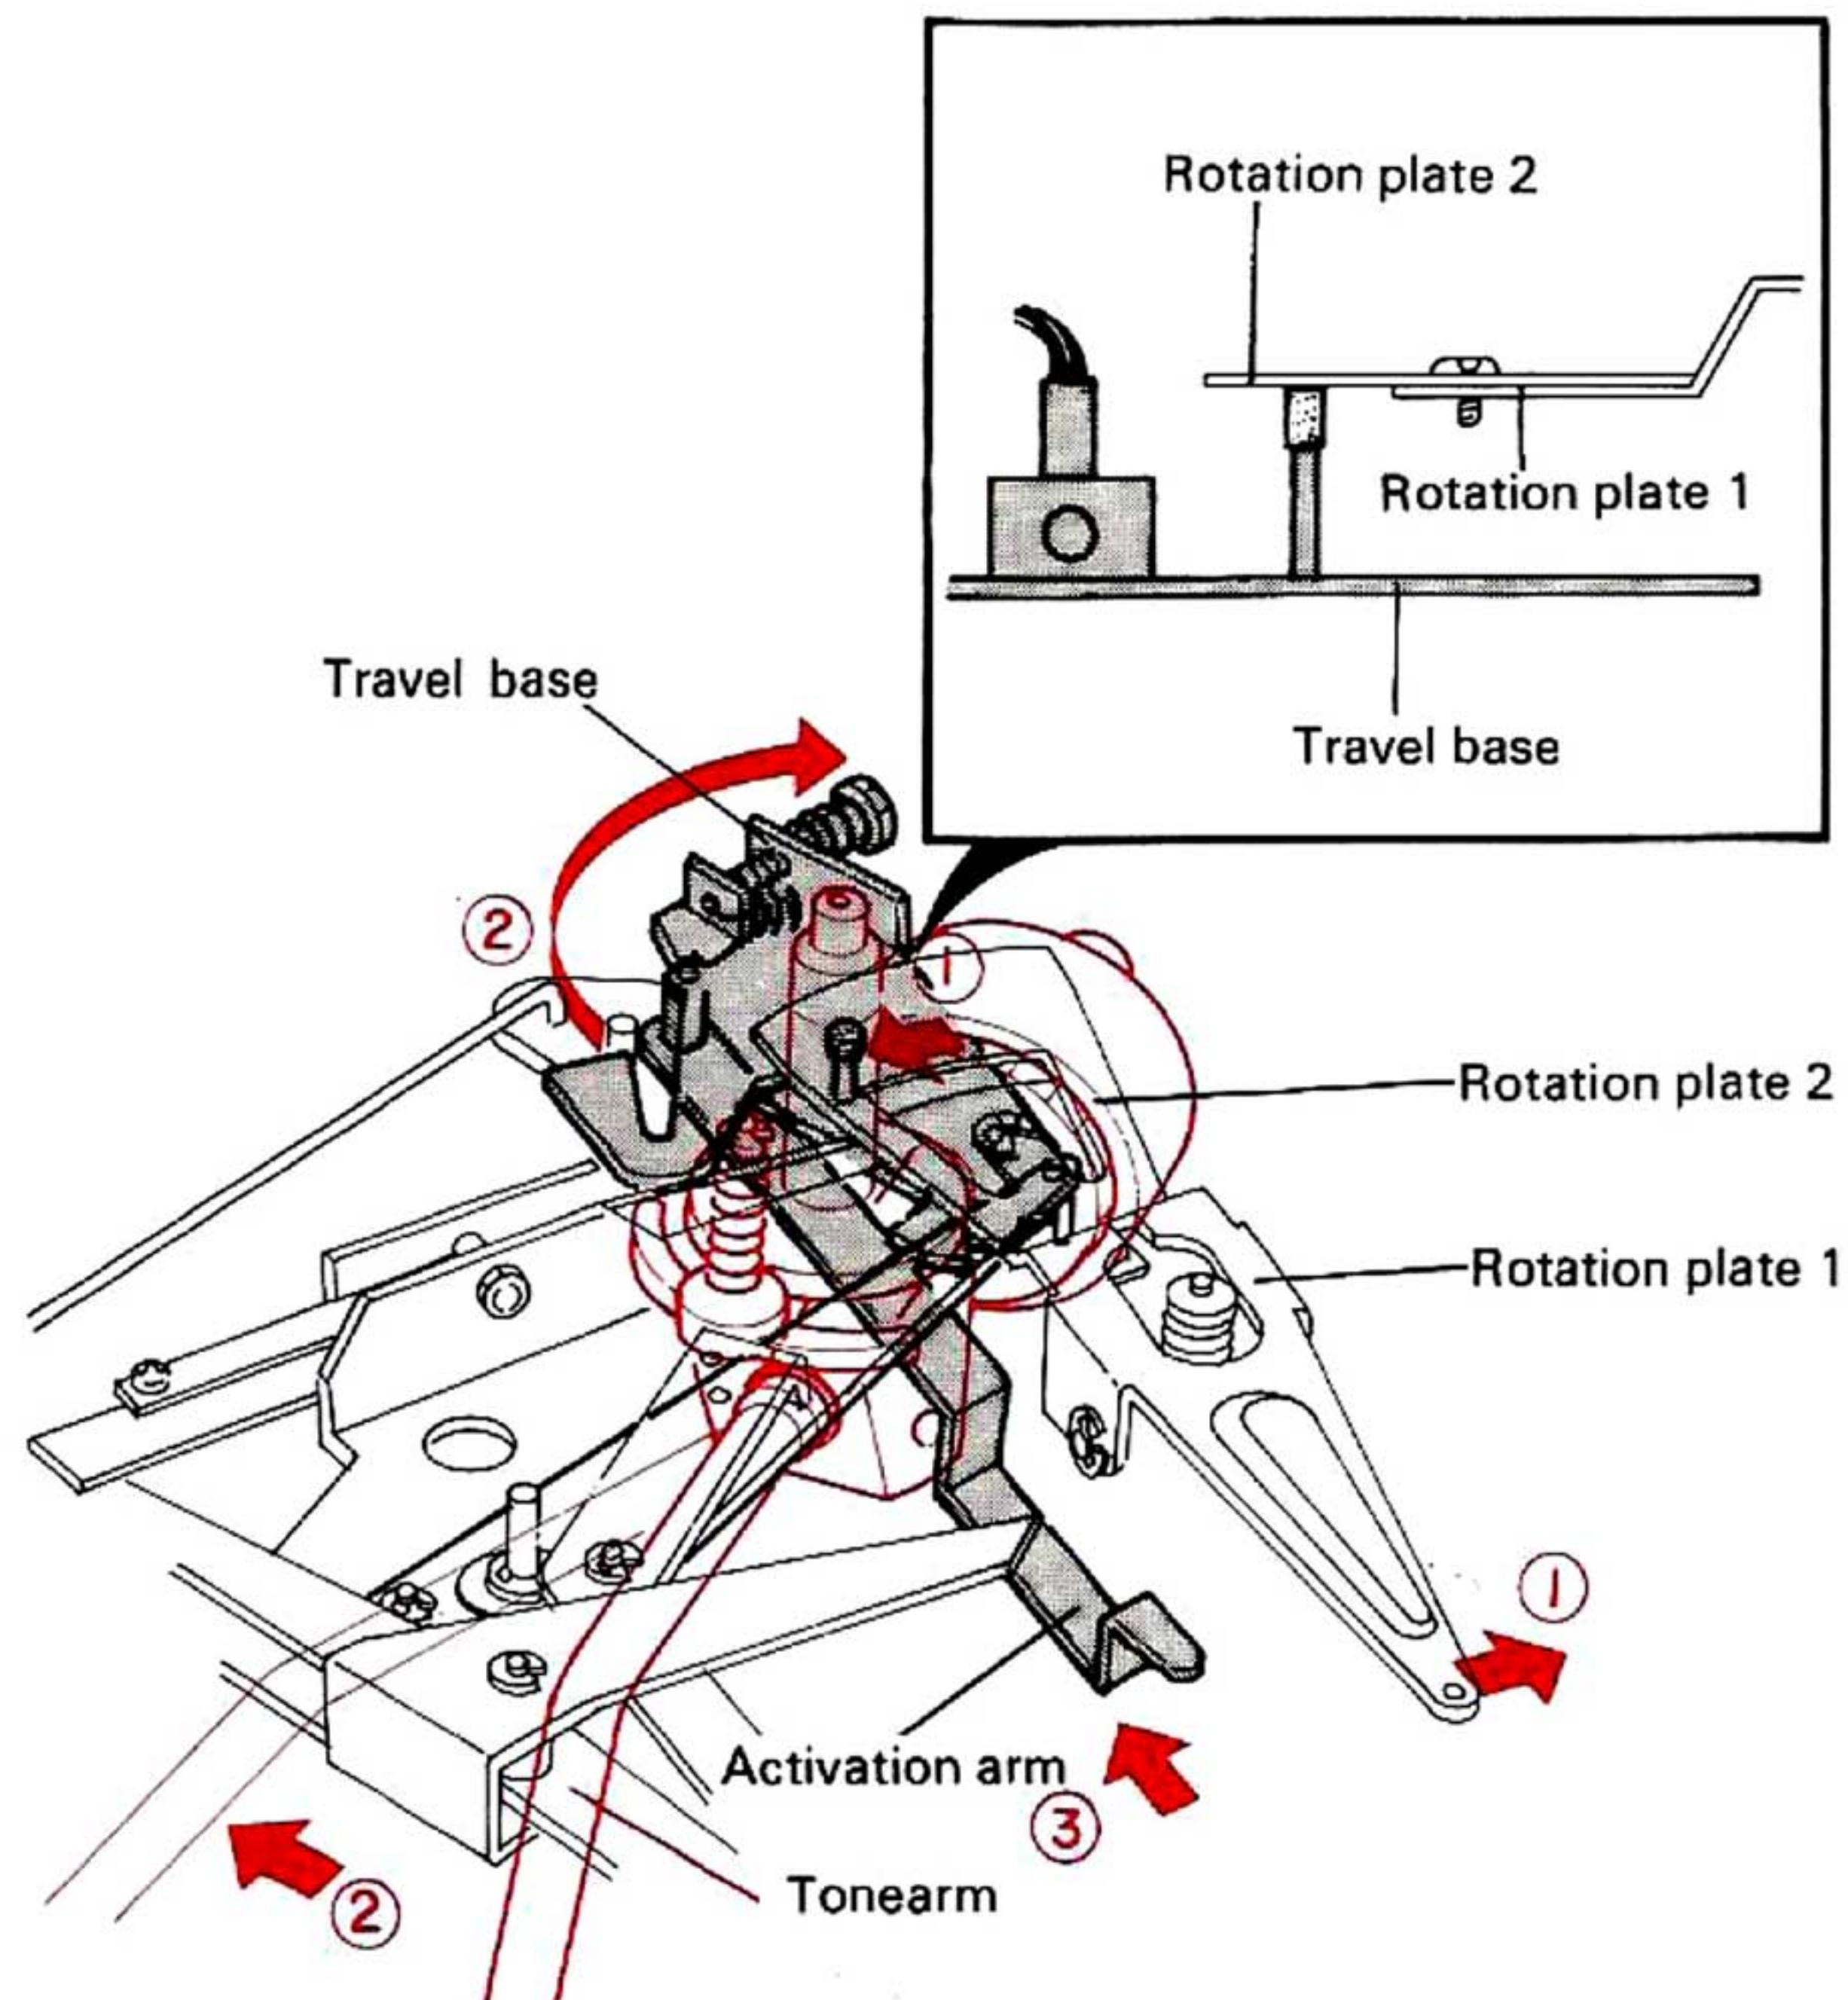

Fig. 12 Return of Tonearm
Rotation plate 1 rotates in direction ① due to the main gear's rotation and rotation plate 2 rotates in the same direction. The tonearm travel base itself moves in direction ② due to the friction between the boss of the travel base and rotation plate 2. The tonearm coupled with the travel base moves in direction ② until the tonearm comes above the arm rest. This operation is opposite of that in the PLAY mode (Fig. 12).
The activation arm coupled with the travel base returns in direction ③ (Fig. 12).